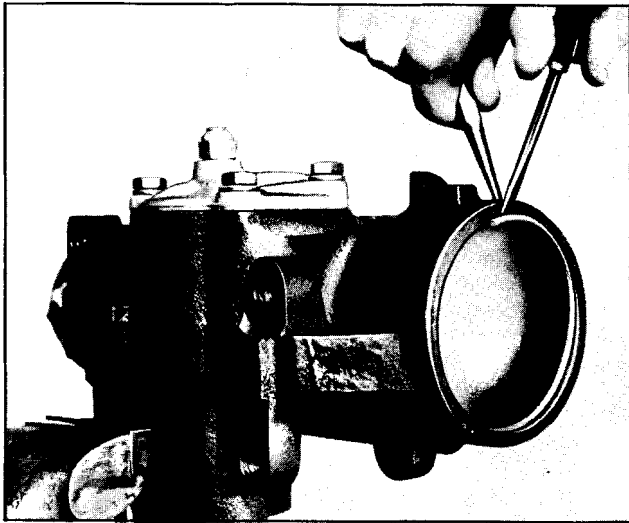

Fig. 9-82 Removing End Cover Retaining Ring
1. Rotate end cover retainer ring so that one end of the ring is over the hole in the side of the housing. Force the end of the ring from its groove and remove ring (Fig. 9-82).